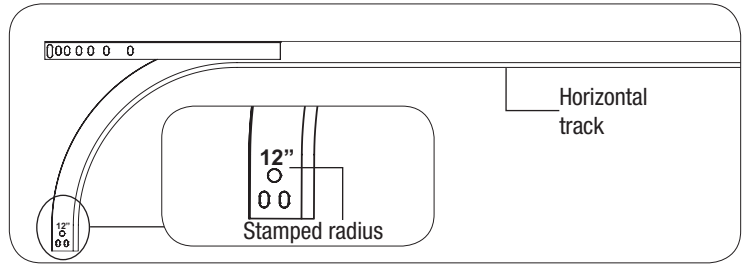
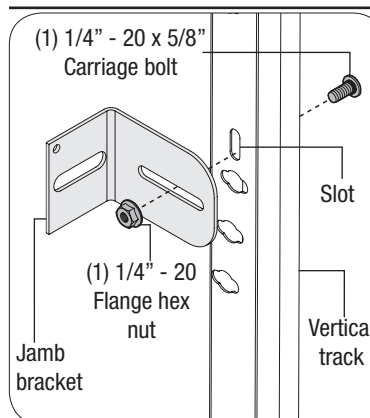
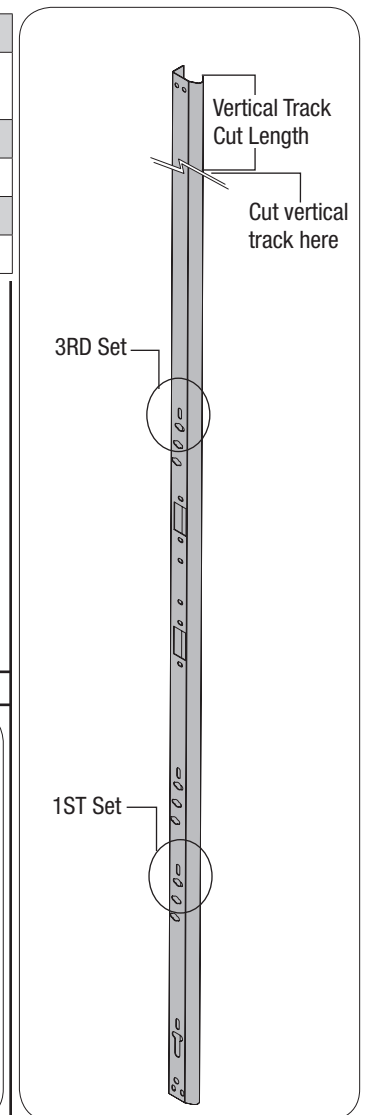

FIG. 1.1
FIG. 1.4
FIG. 1.2
Determine the radius of your horizontal track, as shown in **FIG. 1.1**. Using this measurement, refer to the vertical track cutting chart to determine the length of the vertical track. Cut the track off at the TOP, as shown in **FIG. 1.2**.
To attach the bottom jamb bracket, JB-1, locate the first set of quick install features of the vertical track. Align the slot in the jamb bracket with the slot above the quick install features in the vertical track. The long side of the bracket is placed against the track. Fasten the jamb bracket finger tight, using (1) 1/4" - 20 x 5/8" carriage bolt and (1) 1/4" - 20 flange hex nut, as shown in **FIG. 1.2** and **FIG. 1.4**.
To attach the top jamb bracket, JB-1, locate the third set of quick install features of the vertical track. Align the slot in the jamb bracket with the slot above the quick install features in the vertical track. The long side of the bracket is placed against the track. Fasten the jamb bracket finger tight, using (1) 1/4" - 20 x 5/8" carriage bolt and (1) 1/4" - 20 flange hex nut, as shown in **FIG. 1.2** and **FIG. 1.4**.